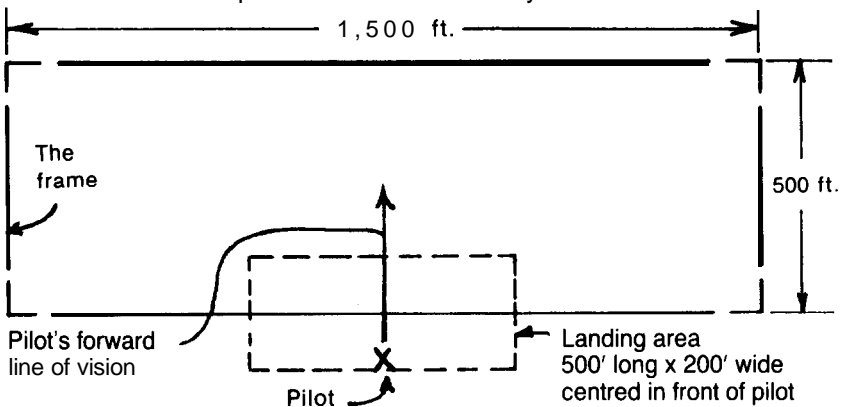

Fig. 8 – The Frame, Plan View
c) Positioning of Manoeuvres (Fig. 8)